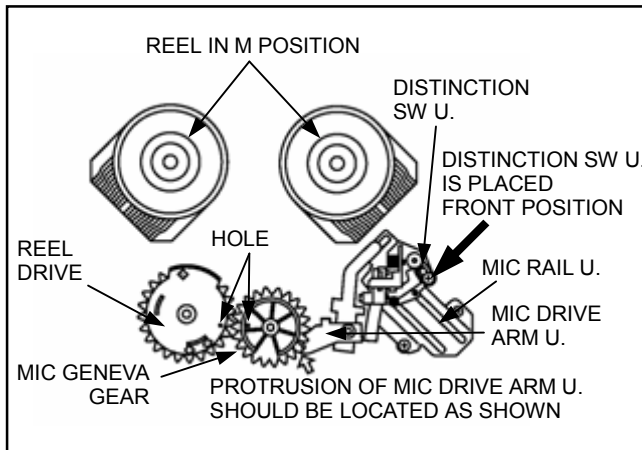

Figure 5-26-3
4. Place the REC Inhibit SW in front position on Distinction SW Unit by rotation of MIC Geneva Gear, and then MIC Geneva Gear should be positioned as shown in Figure 5-26-3.
Protrusion of MIC DRIVE Arm Unit is positioned as shown in Figure 5-26-3.
5. Install the Reel Drive Cam Gear and the hole of Reel Drive Cam Gear should match with the hole of MIC Geneva Gear as shown in Figure 5-26-3.
- 3) Protrusion of MIC Drive Arm Unit is positioned as shown in Figure 5-26-3.